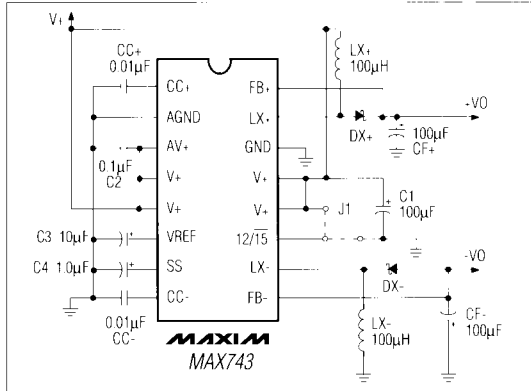
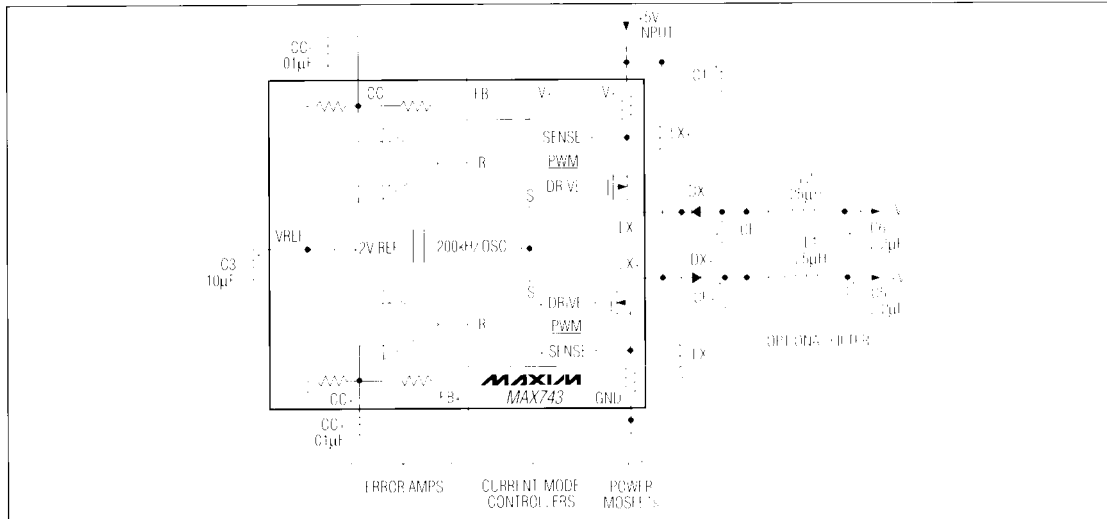
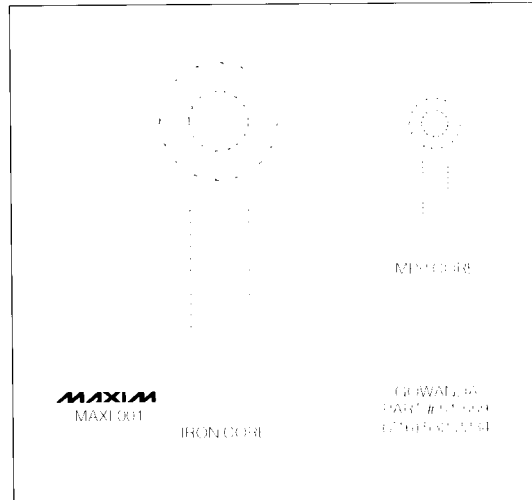
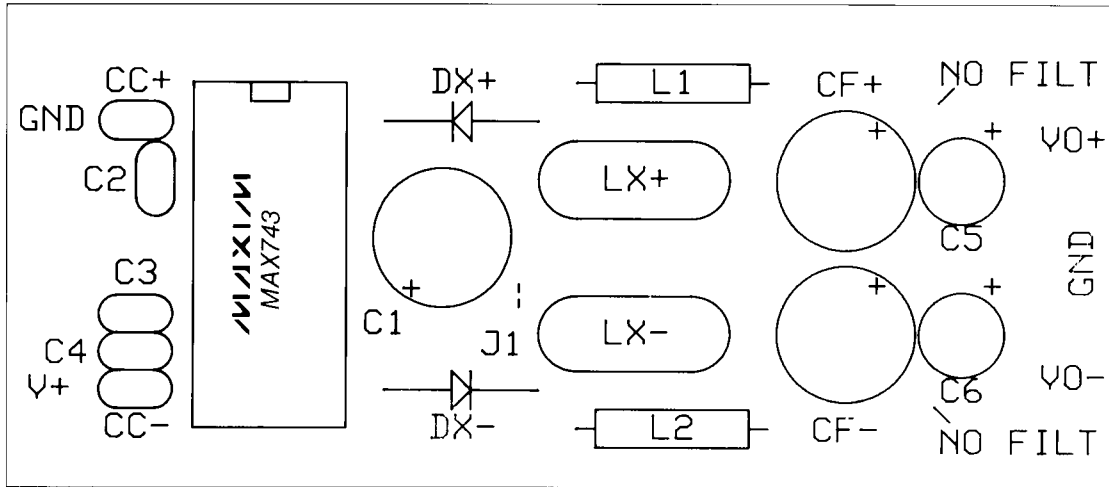

Figure 1. Basic Application Circuit
Figure 4. Functional Diagram with Optional Pi Filter
Figure 5 100 μ H Low-FMI Inductors for 3W Supplies (Actual Sizes) (See Table 1)
Figure 7. Component Placement Diagram for PC Layout of Figure 6
(Circuit of Figure 1, +4.5V < V+ < +5.5V, Note 1.)
(Circuit of Figure 1, V+ = +5.0V, 12/15 pin = 0V, I_{LOAD} = 0, T_A = T_{MIN} to T_{MAX}, unless otherwise noted.)
The circuit in Figure 1 has been tested at all line, load, output current, and temperature limits. Refer to the Electrical Characteristics table for guaranteed in-circuit specifications. Successful use of this circuit requires no component calculations.
The MAX743EVKIT Evaluation Kit demonstrates the output capabilities and noise performance of the MAX743 standard application circuit (Figure 1). The kit includes main switching components identical to those found in the high-volume production kit described on page 11 (MAX743CPEKIT). With a few quick modifications, the circuit can also serve as a low-noise test bed to evaluate other components, such as the miniature MPP toroid inductor of Figure 5. The kit includes optional Pi filters shown in the Functional Diagram (Figure 4), which reduce output noise to less than 2mVp-p.
1. Build Circuit. Assemble the PC board according to the component placement diagram of Figure 7 and the schematic of Figure 4. 3 resistors will be left over (and used for testing). The extra holes near LX and CF are options for nonstandard component sizes. Do not install jumper, J1, or C4.